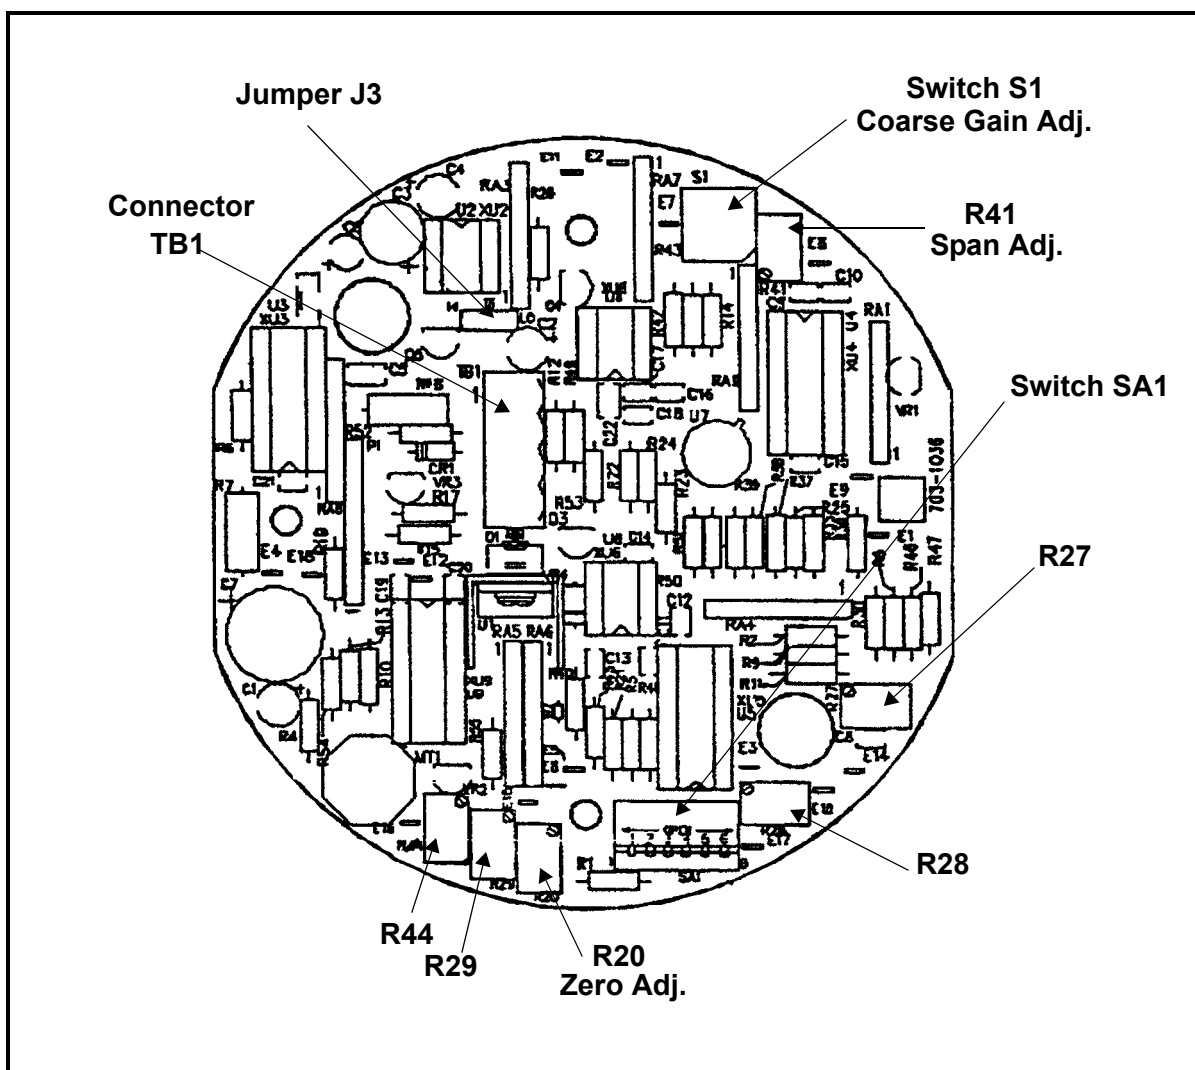

Figure F-1: PCB 703-1036 Calibration Potentiometer and Switch Locations
1. Connect the current lead of the multimeter to TB1, Pin 3, and the return lead to TB1, Pin 2. Note that TB1 can be unplugged from the PCB for easy connections. See Figure F-1 on page F-3 for the location of TB1 and all adjustment pots.
1. Connect the current lead of the multimeter to TB1, Pin 3, and the return lead to TB1, Pin 2. Note that TB1 can be unplugged from the PCB for easy connections. See Figure F-1 on the previous page for the location of TB1 and all adjustment pots.
The TMO2-TC PCB #703-1036 contains two switches, SA1 and S1, and one jumper, J3, which have been preset at the factory for your application (see Figure F-1). If you are recalibrating the TMO2-TC for the same range and binary gas mixture as the previous calibration, you do not need to change the settings of these switches. If you are changing the range or binary gas mixture, you may have to change switch and jumper settings before you calibrate for zero and span. A brief description of SA1, S1, and J3 follows: